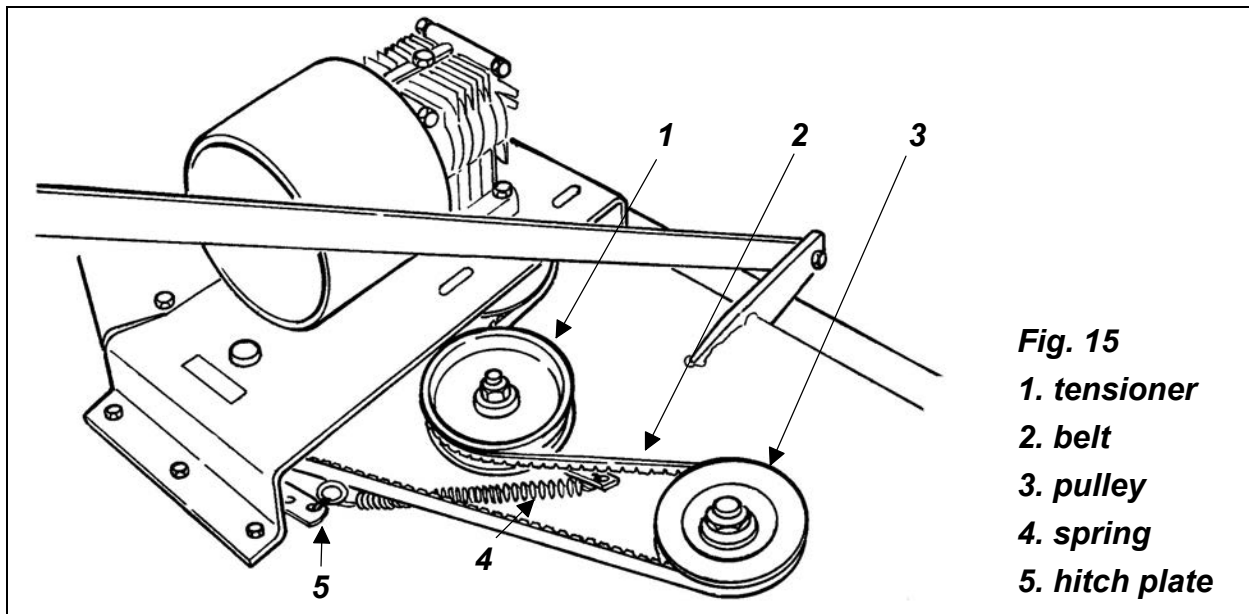

Fig. 15
The mower has an automatic belt tensioner. The tension is created by a spring connecting a tensioner pulley to a fixed hitch plate with 2 positions (**see fig. 15**). Upon delivery, the spring is located in the first position. When the belt stretches after use, adjust the tension by relocating the spring in the other hole. If the belt has stretched to the point that the belt is not tight enough even in the second hole, then it is necessary to replace the belt.
4. Remove front nuts holding central plate (**see fig. 15**).